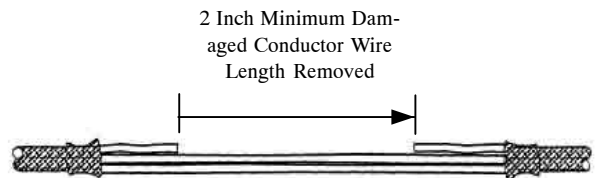

Figure 23. Damaged Wire Removal
- a. Gain access to damaged cable by pulling back outer harness as shown in Figure 23.